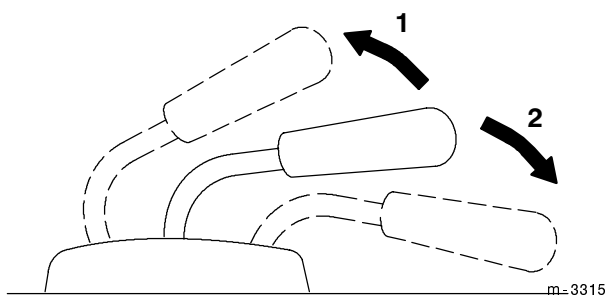

Figure 21
2. Pull the lift lever up to raise the attachment (Fig. 21).
2. Push the lift lever down to lower the attachment (Fig. 21).